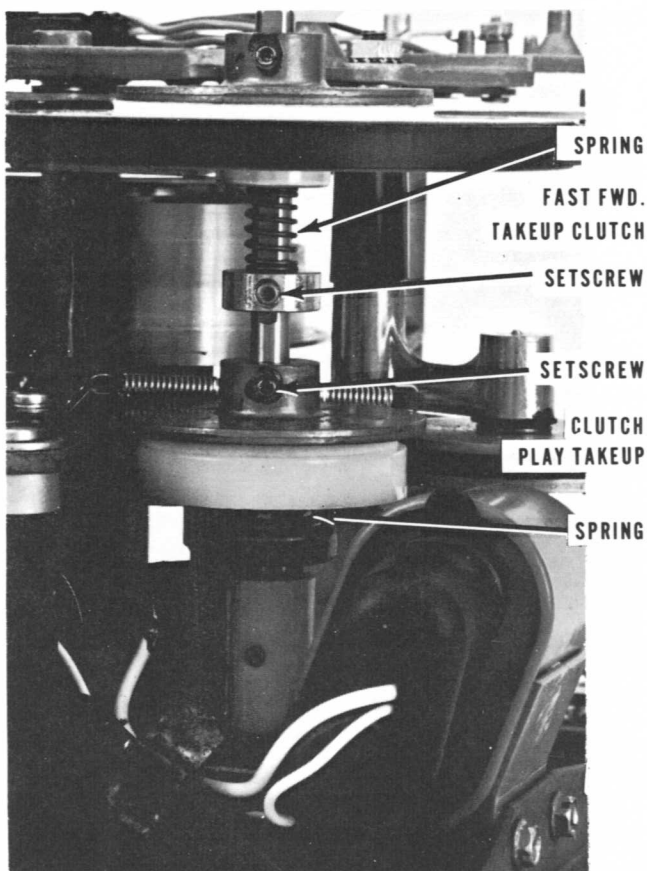

Fig. 4-5. Adjusting Torque, Takeup Turntable
Step 1: Loosen the set screw on the hub of the disc (see Fig. 4-5). Insert a .015 feeler gauge between the thrust washer (that rides on the inner race of the lower ball bearing of the takeup turntable pivot) and the oilite bushing (Item 7, Takeup Arm Exploded View).